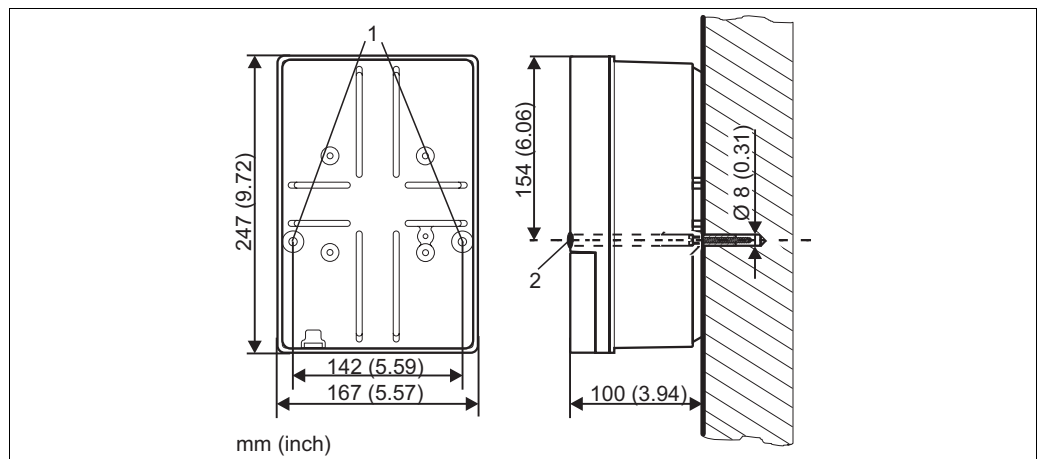

Fig. 9: Dimensions for wall mounting, securing screw: Ø 6 mm (0.24"), wall plug: Ø 8 mm (0.31")
1. Bore the holes as per Fig. 9.
2. Push the two securing screws from the front through the securing bores (item 1).
4. Cover the bores with the plastic caps (item 2).